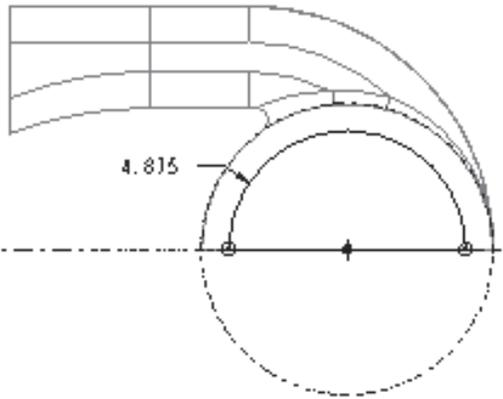

Figure 8-55 Sketch with dimension for cut feature
4. Draw the sketch of the cut feature and apply dimensions as shown in Figure 8-55. You can use the **Create concentric arc** button from the **Right Toolchest** to draw the sketch.